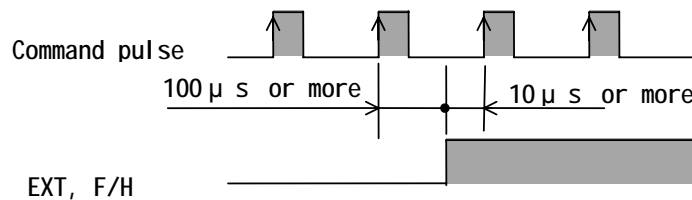

Fig. 9-6 EXT and F/H Input Signal Timing
Fig. 9-6 shows the timing of FULL/HALF input signal, command pulse, and step angle select, as well as the timing when “EXT input signal” and “F/H input signal” are used.
4. Refer to Fig. 9-6 for switching EXT and F/H input signal.